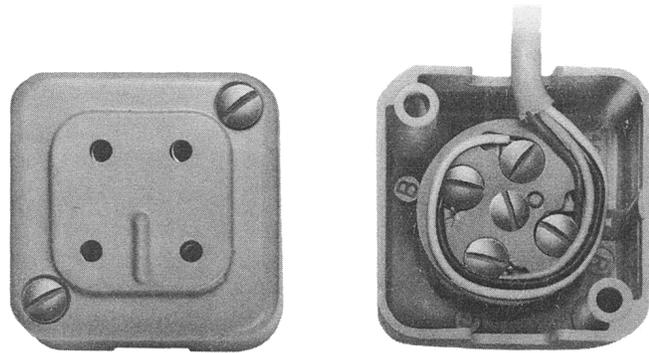

Fig. 11 — 404B Jack
2.11 The 404B jack (Fig. 11) is a one piece, 4-contact, nonflush-type jack intended for baseboard mounting. Mounting hardware is furnished with the jack.